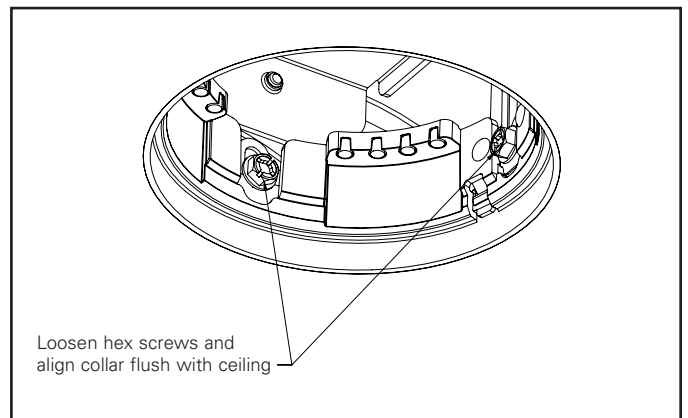
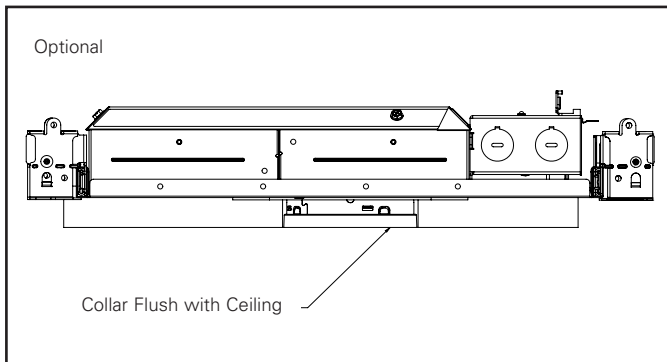

Figure 5.
Figure 8.
5. Once the ceiling is installed, remove the overspray protector, adjust fixture for ceiling thickness by loosening the 4 hex screws that attach the collar to the housing. Bring the bottom edge of collar flush with the finished ceiling (Figure 5) and tighten 4 hex screws. If ceiling thickness is greater than 1.25" and up to 2-1/2", replace existing collar with extension collar (PCE3* or CA3*) and adjust height using hex screws (see figure 8 and 9) as per the Extension-Collar-installation-instructions sheet # IL53450325. If Knife edge adaptors (CA3*) are used Self-Flange adaptor which is part of the housing has to be removed before installing the fixture in the ceiling.
2. Unscrew adapter screws (fig 5) and remove the adapter gently, refer adaptor installation section.